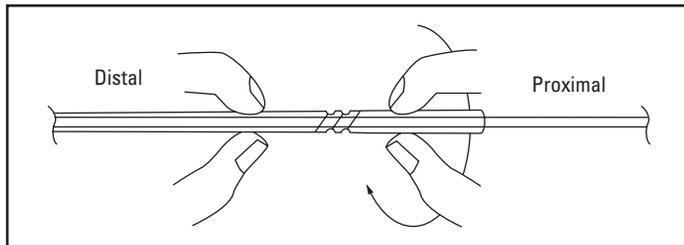

Figure 9. Lock via clockwise rotation
6. Lock the Interlock - 35 Fibered IDC Occlusion System into position by gently pinching the introducer sheath on both sides of the twist-lock mechanism and rotating the proximal side clockwise (Figure 9).